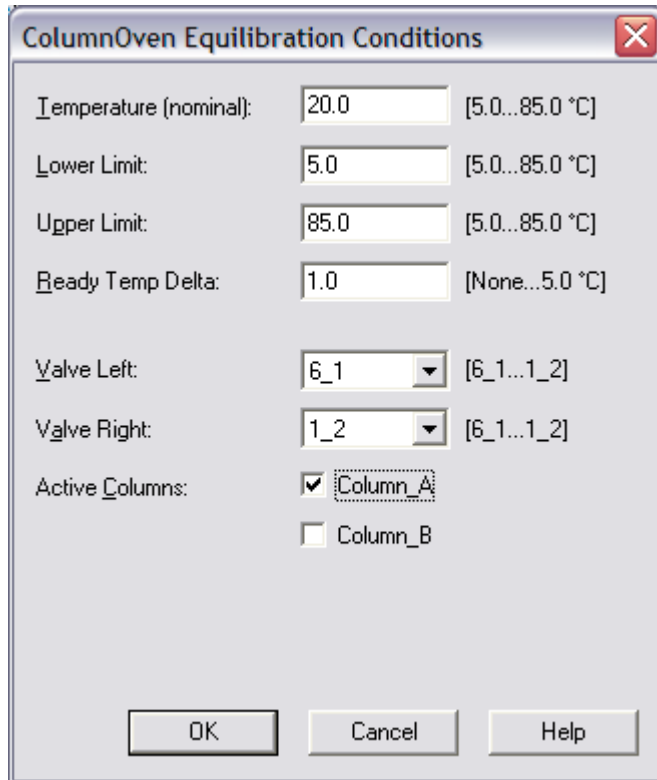

FIGURE 8-9: SmartStartup wizard – column oven equilibration conditions
7. The **ColumnOven Equilibration Conditions** screen allows the user to set the temperature, valve positions and active column (FIGURE 8-9). Choose the correct active column and valve positions for the application. FIGURE 8-9 depicts the settings for the first application. For the second application Valve Left is set to 1_2 and Valve Right is set to 6_1.